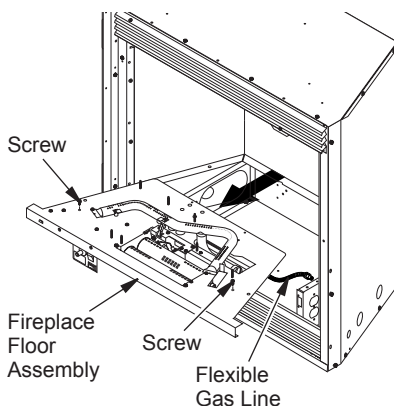

Figure 6 - Removing Fireplace Floor Assembly
3. Remove screws that attach fireplace floor assembly to fireplace. Open lower louver door. Carefully lift up fireplace floor assembly and remove from fireplace, taking care to pull flexible gas line through the access holes (see Figure 6). *Note:* Be careful of all wires on underside of log base.